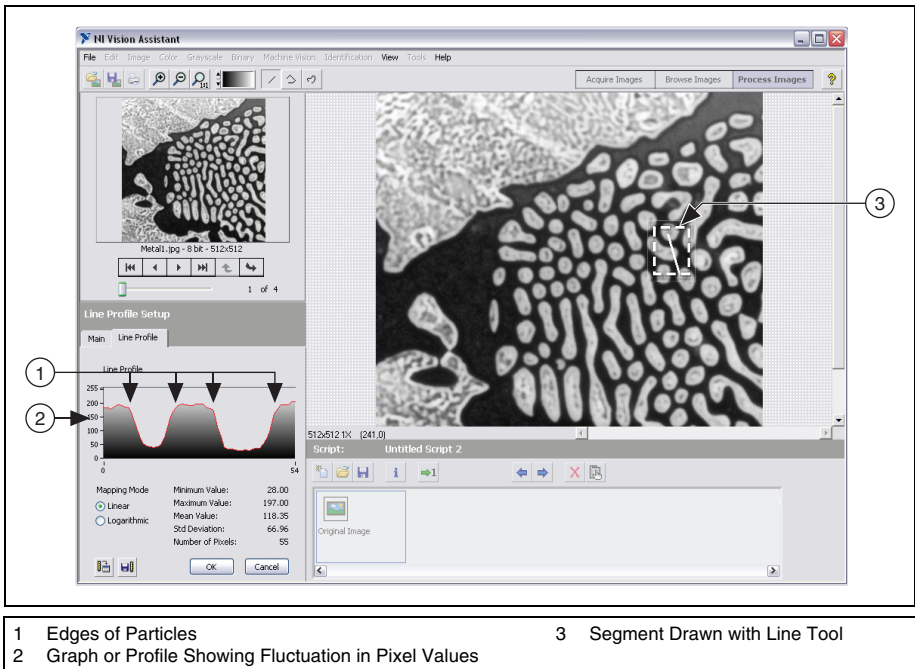

Figure 3-1. Using a Line Profile to Examine Edges
3. Draw a short segment across a particle, as shown in Figure 3-1.
In Figure 3-1, the areas labeled **1** represent the edges of the particles. Notice that the edges of the particles have a slope. The more shallow the slope, the greater variation you have in detecting the exact location of the edge. As you change the threshold level in images with shallow-sloped particle edges, you might inadvertently change the shape or size of the particle. In the Filtering the Image section of this chapter, you use the Convolution-Highlight Details filter under **Filters** in the **Grayscale** tab of the Processing Functions palette to define the edges of the particles and increase the slope.
The area labeled **2** in Figure 3-1 is a fluctuation in pixel values, which might be caused by brighter and darker pixels in the center of the particles or it might also be edges of a hole in the particle. Later, you will threshold the image to make all of the pixels in the particles the same pixel value and then perform a morphological operation on the image to fill any holes left in the particles.